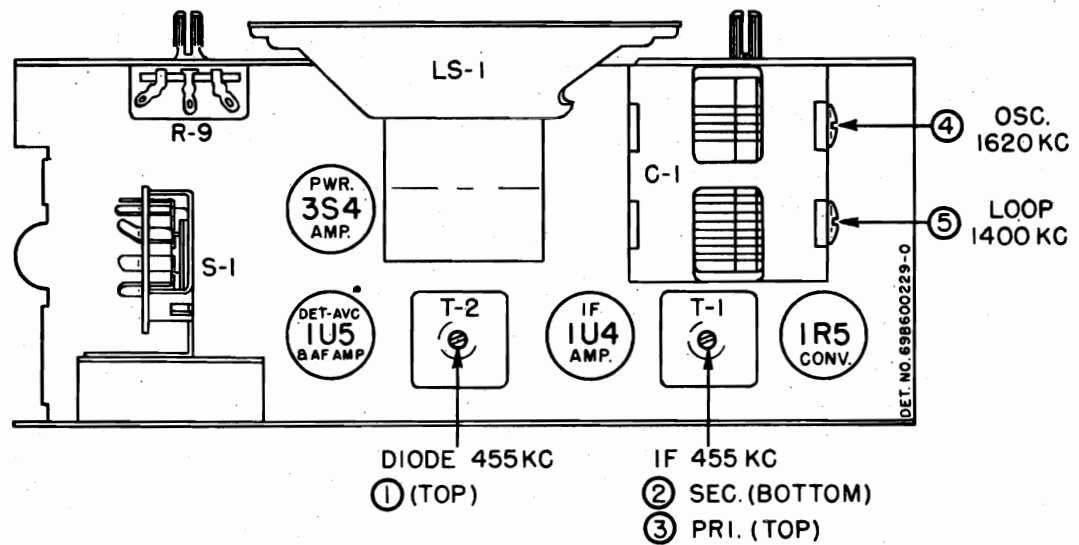

FIGURE 1. TUBE AND TRIMMER LOCATIONS
7. See Figure 1 for adjusting locations and the following chart for procedure.